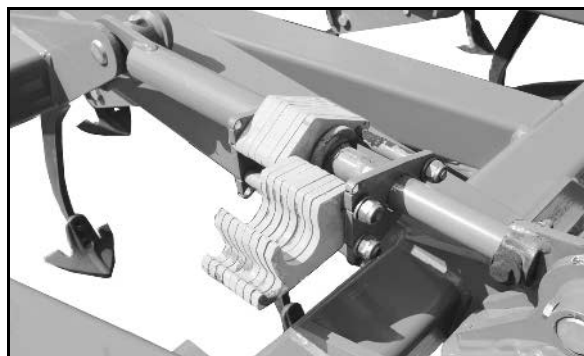

Fig. 50
- Using the support or feeler wheels (Fig. 50).